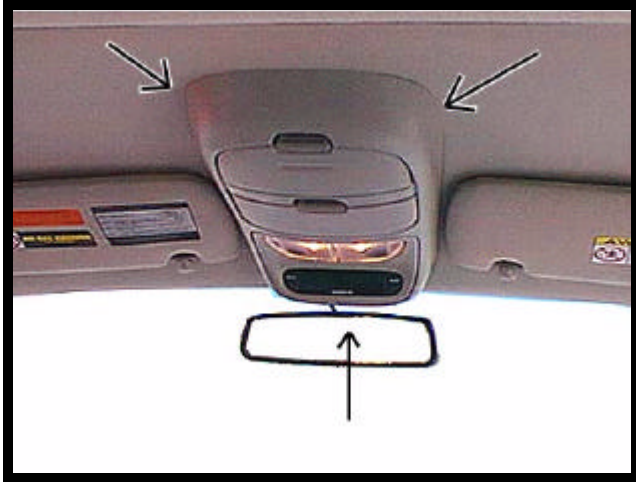

FIGURE 1
1. Remove and discard front mounting screw from overhead console and pull downward to release clips at rear of console. See Figure 1.